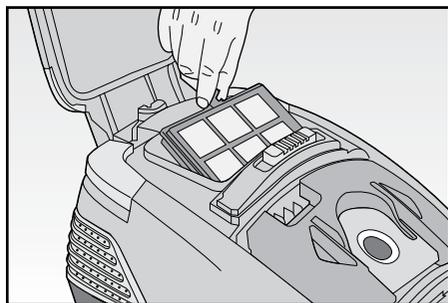

Fig. 10
- Lift the filter out from its compartment (FIG. 10) and shake it vigorously to clean it. If the filter is extremely soiled, wash it with lukewarm soapy water and leave it to dry. NEVER use artificial means to dry the filter. To replace the filter, contact an Assistance Centre.